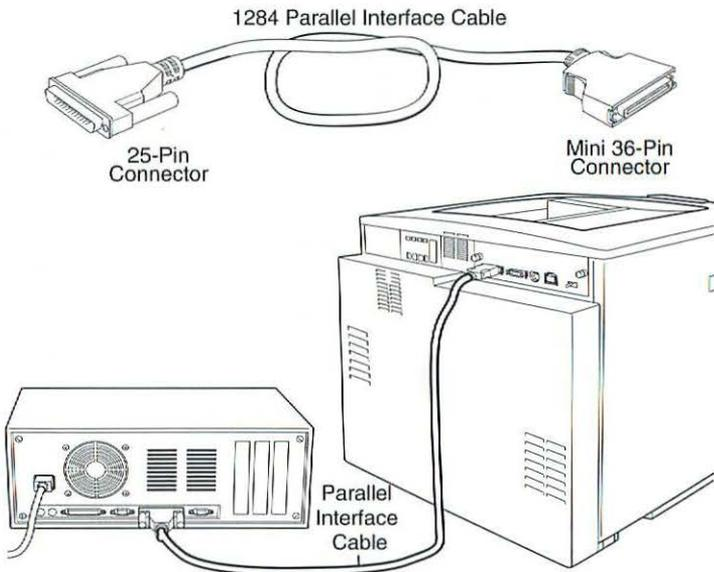

Figure 2. Parallel Port Connection
1. Attach the cable's 25-pin connector to the parallel port on the computer, as shown in Figure 2.